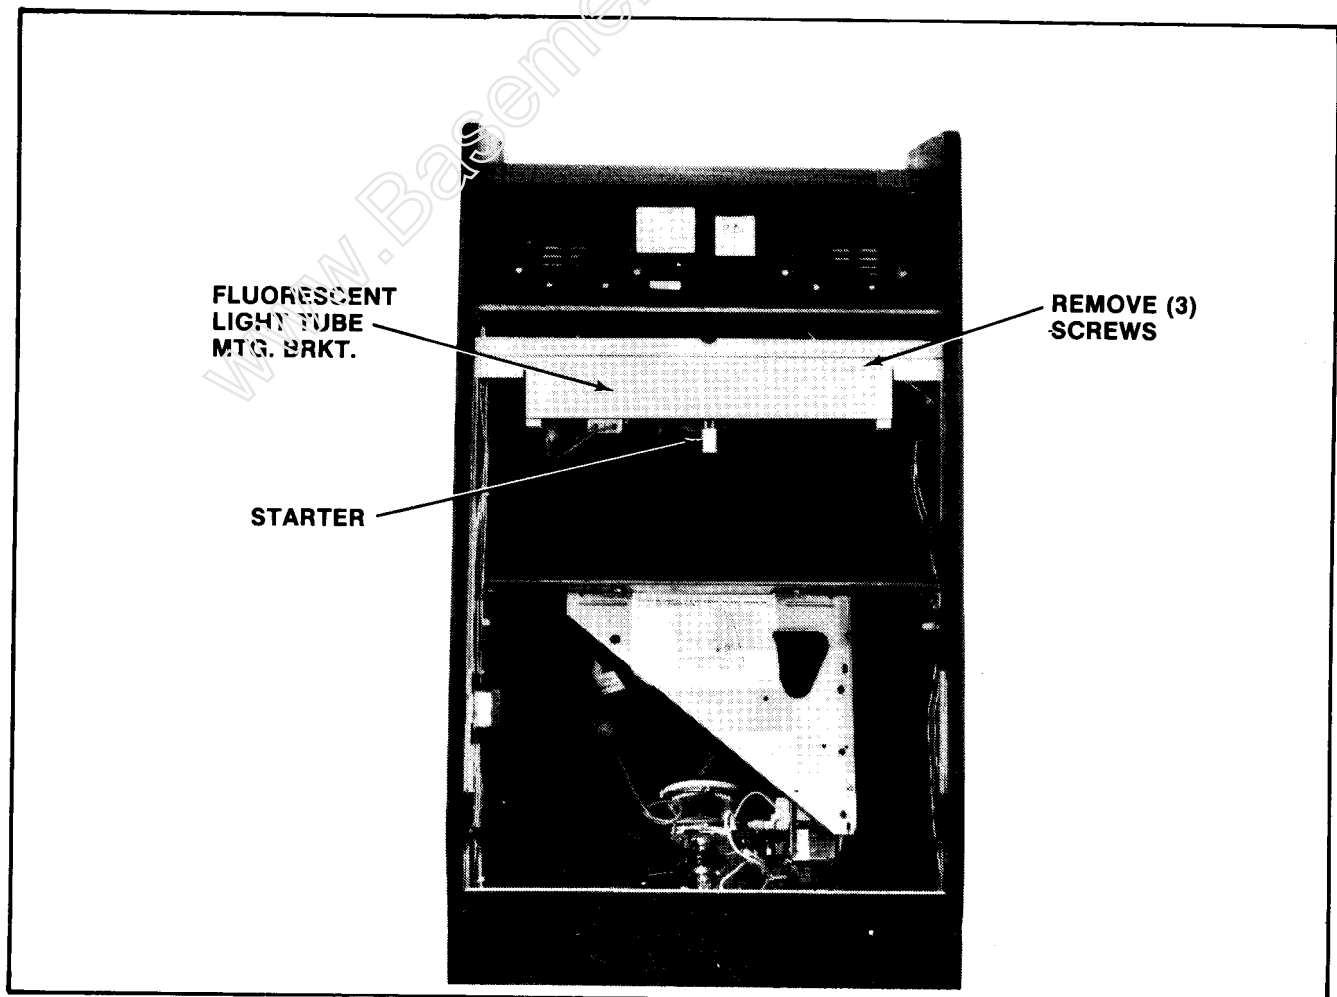

Figure 2-51 Servicing Windshield Fluorescent Light - Upright
- ☐ Remove the upper rear access door. This exposes the windshield fluorescent light tube mounting bracket assembly. See Figure 2-51.
- ☐ Replacing the fluorescent tube starter. See Figure 2-51.
Remove the screws along its base which secure the mounting bracket to the inside of the cabinet as shown in Figure 2-51. Remove the two end screws first and the center one last.